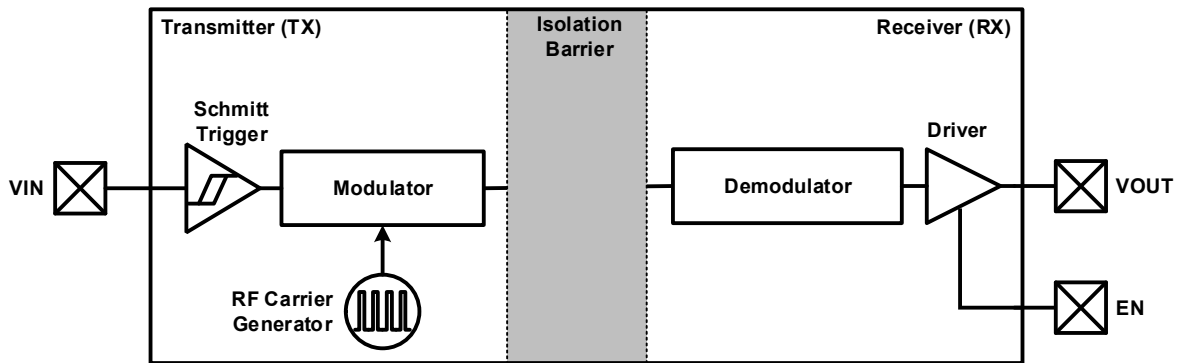
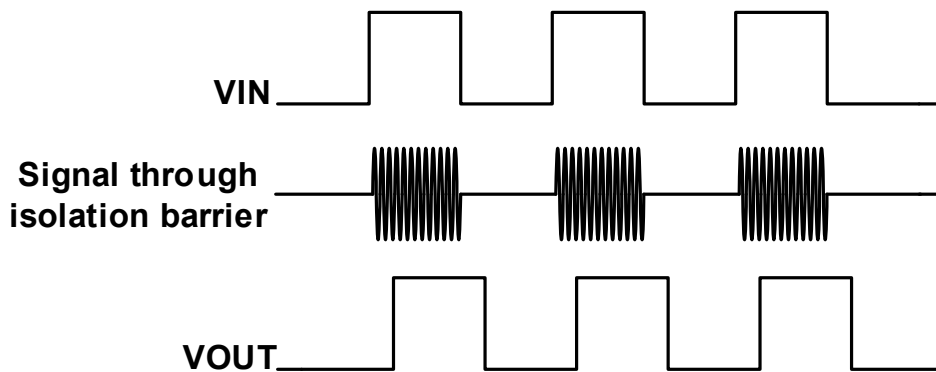

Figure 9-1 Functional Block Diagram of a Single Channel
Figure 9-2 Conceptual Operation Waveforms of a Single Channel
The CA-IS38xx family of devices use a simple ON-OFF keying (OOK) modulation scheme to transmit signal across the SiO₂ isolation capacitors that provide a robust insulation between two different voltage domain and act as a high frequency signal path between the input and the output. The transmitter (TX) modulates the input signal onto the carrier frequency, that is, TX delivers high frequency signal across the isolation barrier in one input state and delivers no signal across the barrier in the other input state. Then the receiver rebuilds the input signal according to the detected in-band energy. If the ENx pin is low then the output goes to high impedance state and will be pulled up to V_{DD0} (CA-IS383xH) or pull down to the corresponding GND (CA-IS383xL). This simple architecture offers a robust isolated data path and requires no special considerations or initialization at start-up. The capacitor-based signal path is fully differential to maximize noise immunity, which is also known as common-mode transient immunity. Advanced circuitry techniques are applied for better EMI introduced by the carrier signal and IO switching. The capacitively-coupled architecture provides much higher electromagnetic immunity compared to the inductively-coupled one. And OOK modulation scheme eliminates the missing-pulse error that occurs in the pulse modulation method. A simplified functional block diagram and conceptual operation waveforms of a single channel is shown in Figure 9-1 and Figure 9-2.